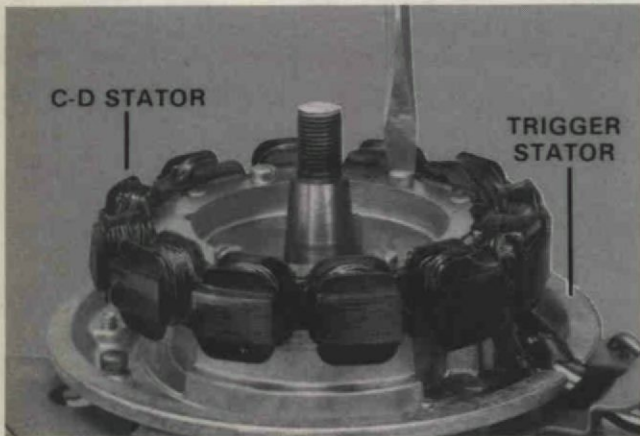

Figure 15. Assembling C-D Stator to Trigger Stator.
2. Insert the stator mounting screws and tighten. Figure 15.